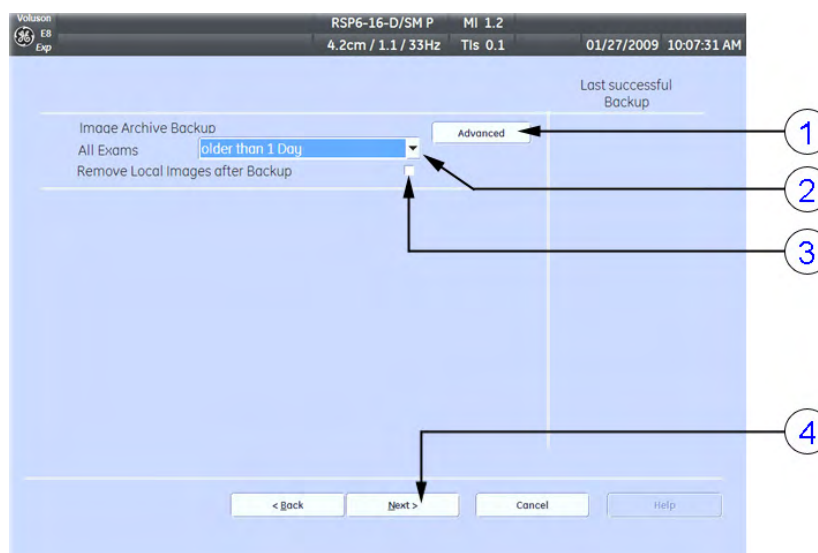

Figure 4-33 Image Archive Save - preparations
5. Choose archiving span time from the pull-down menu (2).
**Note** *If for example “All images older than” **1 Day** is chosen (see: Figure 4-33 on page 4-39 ), images of the current day will not be archived! However, if you click the [Advanced] button you can put this right.*
6. If desired, check mark “Remove Local Images after Backup” (3).
7. Click the **Advanced** button (1) if it is desired to adapt archive data.
8. Select the **Next** button (4).